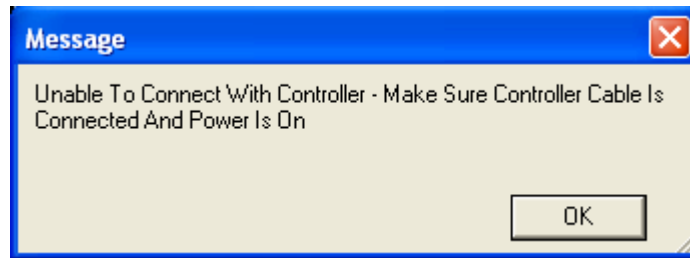

Figure 1. Communication Failure
If the communication is not successful, the dialog box in Figure 1 below will be displayed.
See Figure 1 below for a graphic description of the file hierarchy.
In Figure 1 above, the test activity described would be consistent with the certification of three (3) separate fume hoods under one test ID. This is a very common practice for field certifiers where several hoods will be certified under a single contract as part of a project. The use of a common Test ID number (101 in this example) allows for all certification activities to be related to the same project. This will allow the generation of summary test reports for all testing performed under the Test ID #101. The example above will also allow the tracking down to individual fume hoods for each test performed, and an individual test report generated for each fume hood which would include all testing performed for the hood.